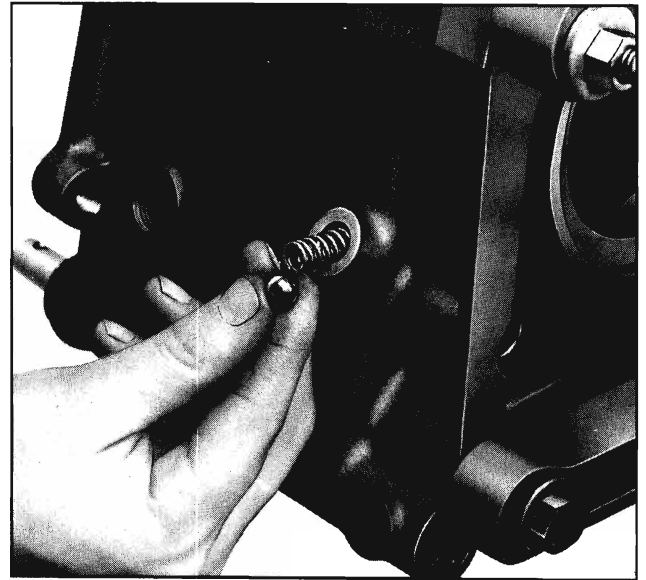

Fig. 7-44 Installing Detent Spring and Ball
10. Install detent spring and ball (Fig. 7-44), in that order, in detent cavity. Tap ball and spring to insure the spring is resting on bottom of cavity.